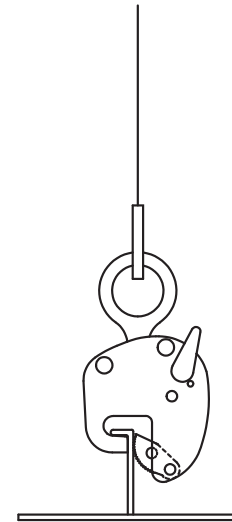
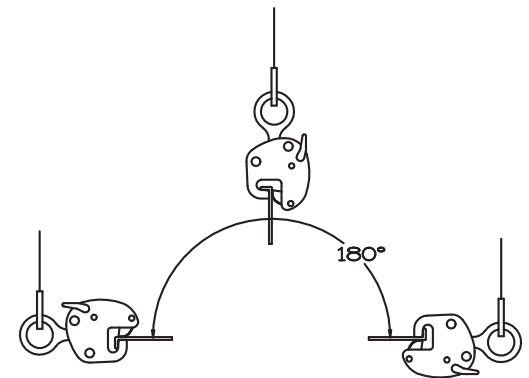

Figure 1
Figure 2
3. The Model VL-Channel may be used to lift material from a vertical position (Fig. 1) or from horizontal to vertical to horizontal through a 180° arc (Fig. 2).